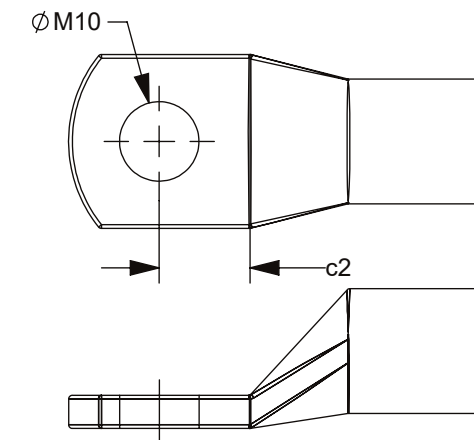

FIGURE 1
2. ASSEMBLE THE ISOLATED BOLT, M10 RING TERMINAL, & M10 ZCASE TO THE BASE ASSEMBLY. SECURE THE BOLT TO  $16 \pm 2 \text{ N}\cdot\text{m}$ . BE SURE THE RING TERMINAL DIMENSIONS MATCH THE FOLLOWING REQUIREMENTS (FIGURE 1):